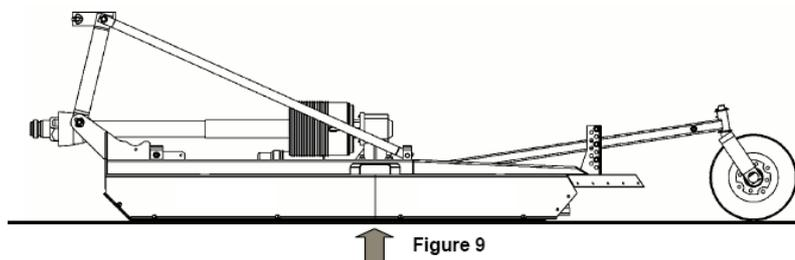

Figure 9
- Raise the machine off ground using tractor hydraulics (*Fig.9*).